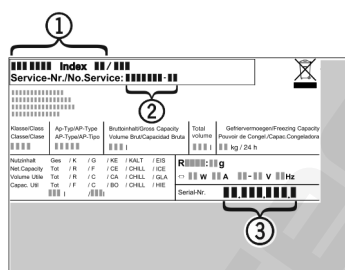

Fig. 17
- Read the appliance designation *Fig. 17 (1)*, service No. *Fig. 17 (2)* and serial No. *Fig. 17 (3)* off the model plate located inside the appliance on the left-hand side.
- Notify the customer service, specifying the fault, appliance designation *Fig. 17 (1)*, service No. *Fig. 17 (2)* and serial No. *Fig. 17 (3)*.